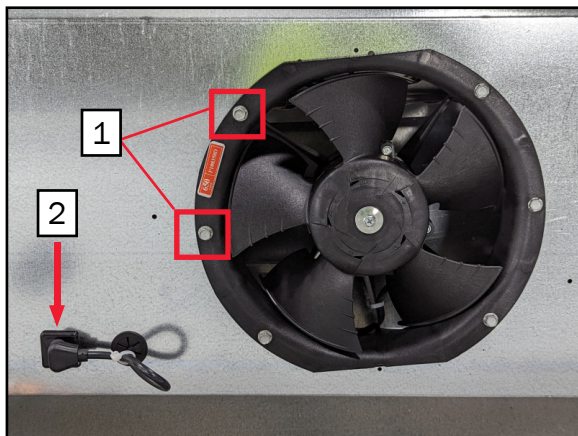

Fig. 14: Fan basket
1. Unplug the fan motor (Fig. 14) from the receptacle on the exterior of the fan plenum. Push the power cord back through the plenum opening.